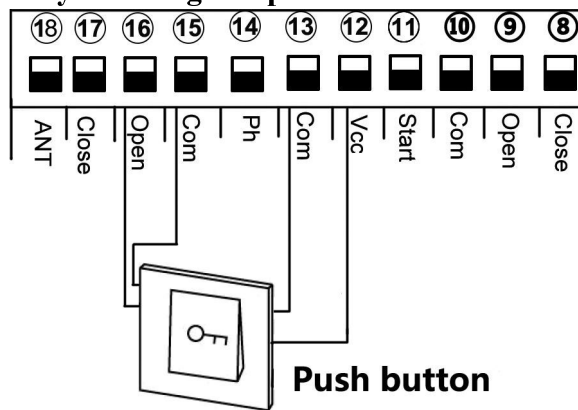

Fig 12
G. Connect to open device. (Please see Fig 12)